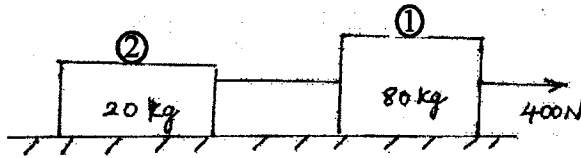

Fig 11
- c) Two bodies of masses 80 kg and 20 kg are connected by a thread along a rough horizontal surface under the action of a force 400 N applied to the first body of mass 80 kg as shown in Fig 11. The coefficient of friction between the sliding surfaces of the bodies and plane is 0.3. Determine the acceleration of two bodies and tension in the thread using D'Alembert's principle.